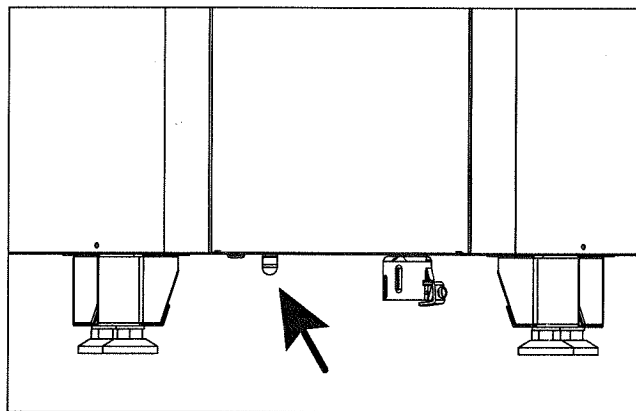

Figure 3. Overheat protector
Er3 must also disappear from the display. The mechanical reset button (see figure 3) is used to reset the overheat protector. To reset the protector, press the button until you hear a click.
- the thermostat overheat protector has permanently switched off the current in the heating elements. This is the case if the heater cools down completely and the only way to solve the malfunction is to reset the heater using the overheat protector reset button. See fig. 3.